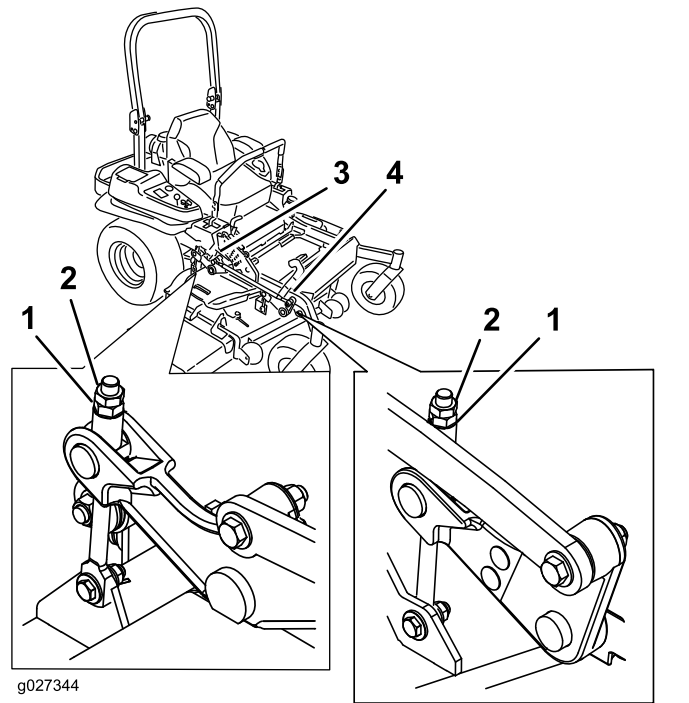

Figure 114
10. Fine-tune the adjustment nut on the front deck-lift assembly by turning it (Figure 114).
16. Fine tune the screw adjuster by turning it to get 8.3 mm (3-1/4 inches) height (Figure 114).